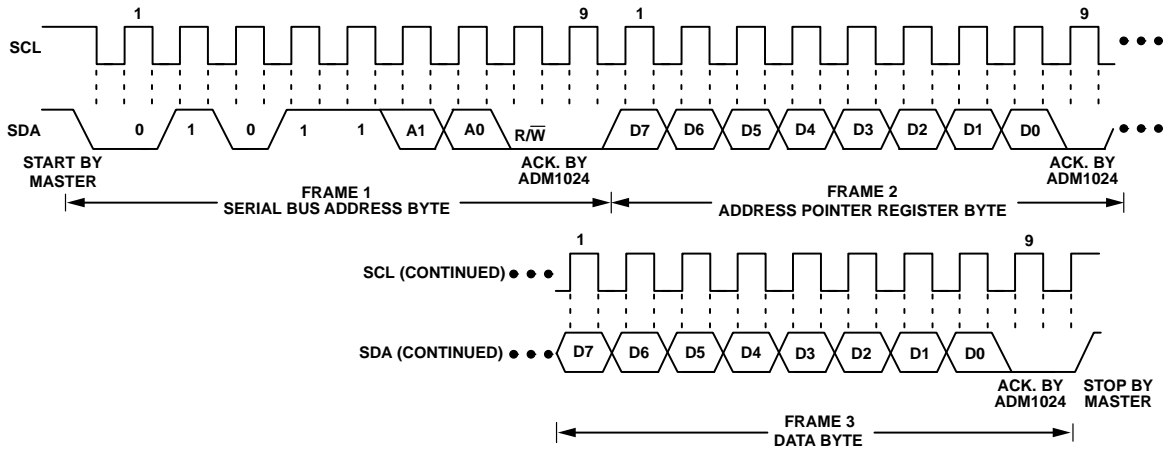
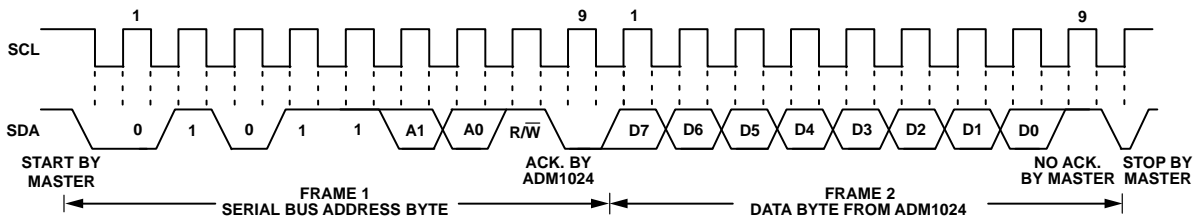

Figure 10. Writing a Register Address to the Address Pointer Register, then Writing Data to the Selected Register
Figure 12. Reading Data from a Previously Selected Register
To write data to one of the device data registers or read data from it, the Address Pointer Register must be set so that the correct data register is addressed, then data can be written into that register or read from it. The first byte of a write operation always contains an address that is stored in the Address Pointer Register. If data is to be written to the device, the write operation contains a second data byte that is written to the register selected by the Address Pointer Register. This is illustrated in Figure 10 The device address is sent over the bus followed by R/W set to 0. This is followed by two data bytes. The first data byte is the address of the internal data register to be written to, which is stored in the Address Pointer Register. The second data byte is the data to be written to the internal data register.
the serial bus address, R/\overline{W} bit set to 1, followed by the data byte read from the data register. This is shown in Figure 12.
2. In Figure 10 to Figure 12, the serial bus address is shown as the default value 01011(A1)(A0), where A1 and A0 are set by the three-state ADD pin.